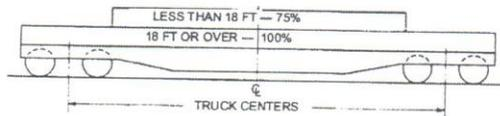

Fig. 3.2 Flatcars built after January 1, 1965
3.4.4.3 Fig. 3.2 applies to all flatcars built after January 1, 1965, including flatcars equipped with both fish-belly center sills and fish-belly side sills.